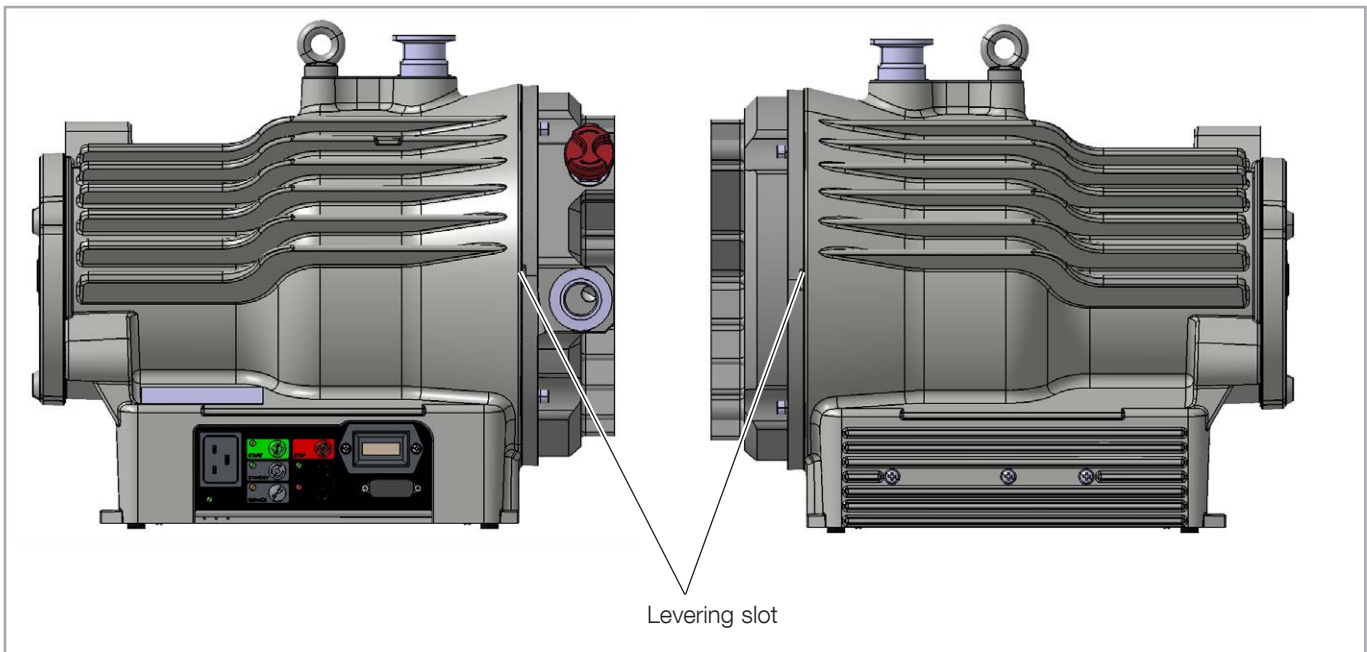

Figure 4 - Pump side views
5. Carefully separate the fixed scroll assembly from the housing assembly using a suitable lever in the slots provided (Figure 4).